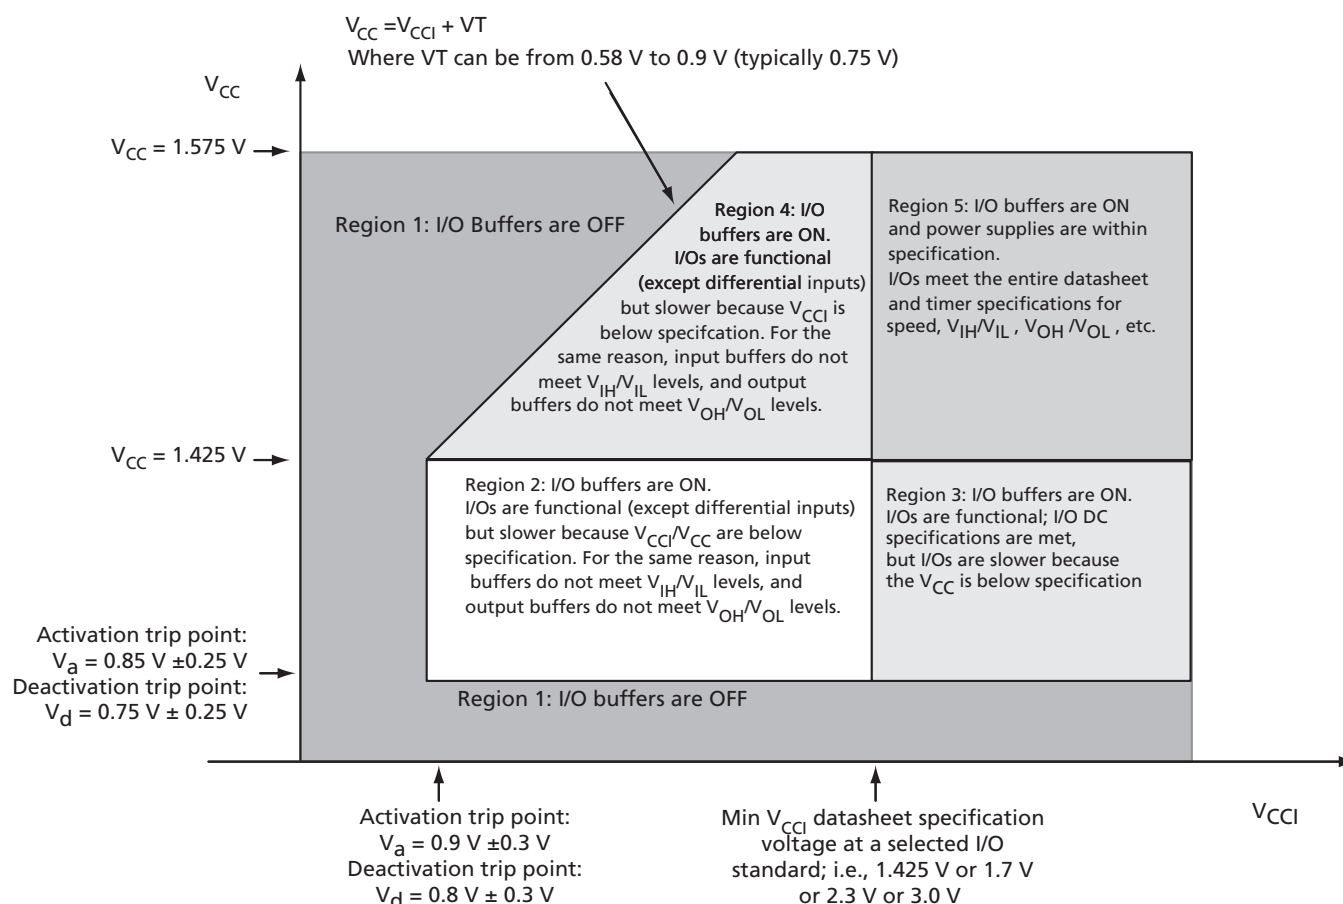

Figure 3-1 • I/O State as a Function of V_{CCI} and V_{CC} Voltage Levels
Sophisticated power-up management circuitry is designed into every ProASIC3 device. These circuits ensure easy transition from the powered-off state to the powered-up state of the device. The many different supplies can power-up in any sequence with minimized current spikes or surges. In addition, the I/O will be in a known state through the power-up sequence. The basic principle is shown in Figure 3-1.
1. V_{CC} and V_{CCI} are above the minimum specified trip points (Figure 3-1)